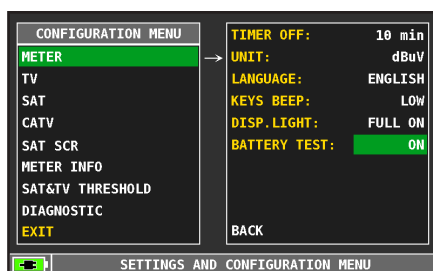

FIG. 2*
- Select the word “meter” and press “ENTER” to confirm (fig. 2);
- Select “battery test” and select “on” (fig. 2);